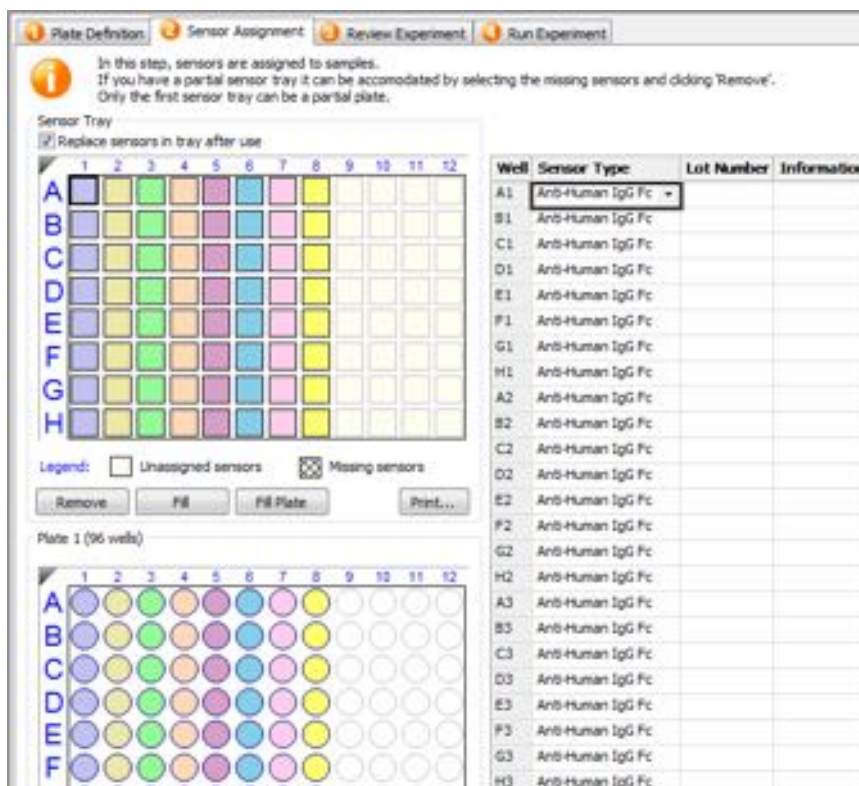

Figure 7-49: Changing Biosensor Types
- Select a cell in the **Sensor Type** table column, click the down arrow and select a biosensor type from the drop-down list (see Figure 7-49).